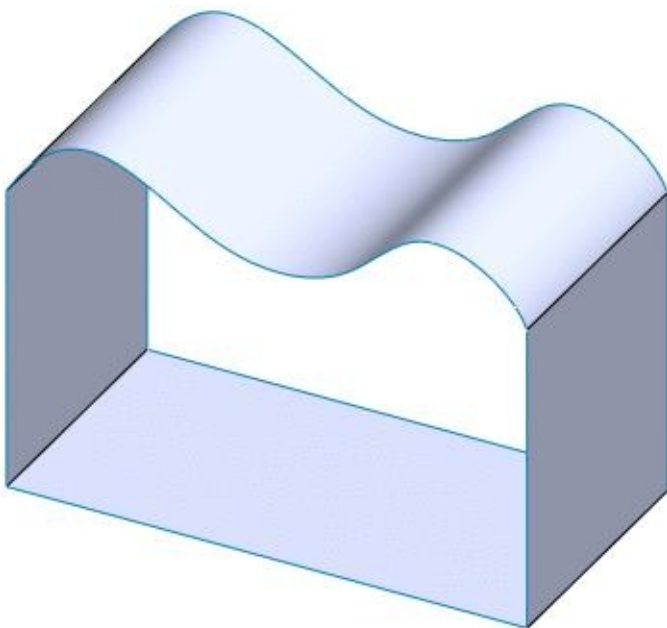

Figure-24. Surface model
- Before we start using **Shell Manager**, we have a surface model as shown in Figure-24. This model is a representation of sheetmetal part with uniform thickness of 5 mm.